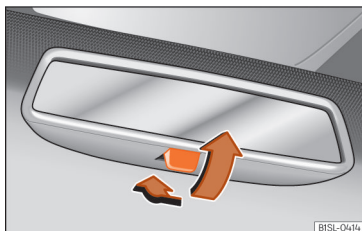

Fig. 123 Manual anti-dazzle function for rear vision mirror
- Pull the lever to the back to select the anti-dazzle function »» Fig. 123.